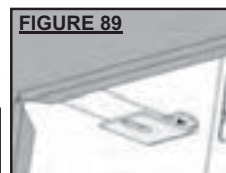
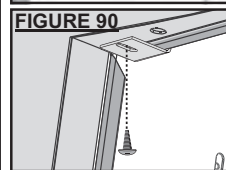

FIGURE 89
FIGURE 90
3. First secure the clean face surround to the fireplace front by hooking the ledge that runs horizontally on the rear surface of the clean face surround over the bottom edge of the fireplace front opening. (FIGURE 89)
4. With the clean face surround against the fireplace front, hook the surround clips in behind the top lip of the fireplace front opening (FIGURE 89) and secure using the screws provided through the slot in the surround clip and into the pre-drilled hole in the clean face surround. (FIGURE 89) If the optional clean face trim kit was installed, the surround clip fits into the cut out and is secured in the same fashion. (FIGURE 90)